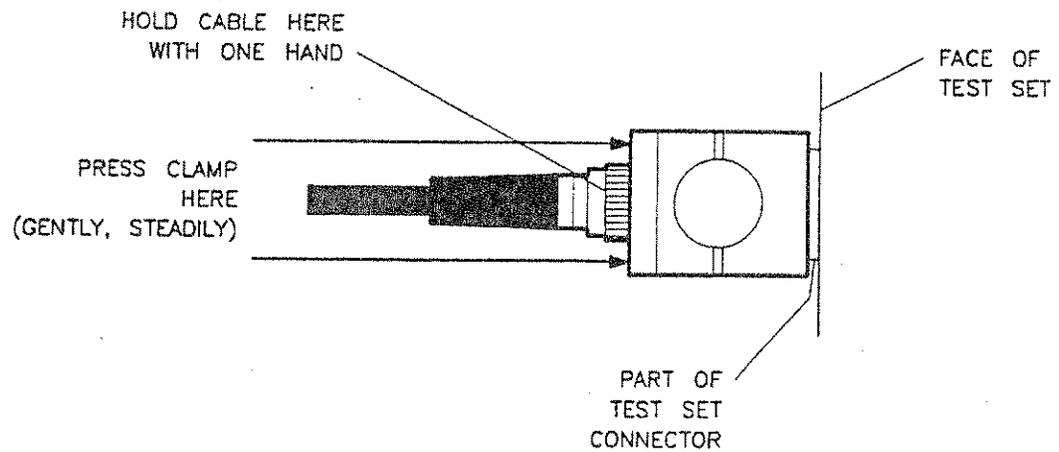

Figure 3-6. Mating the Clamp and Nut Flats
4. See Figure 3-6. Hold the cable with one hand and gently press the clamp onto the test port connector nut. The internal flats in the clamp must fit over the flats on the connector nut. Do not rotate the clamp as you do this or the RF connection will be affected.